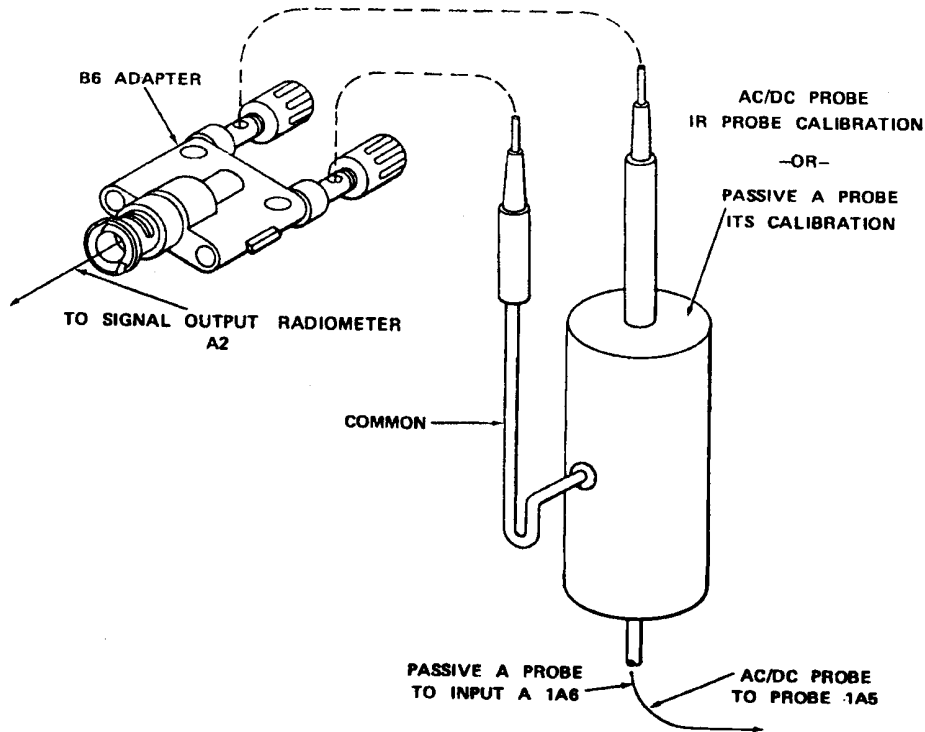

Figure 5. AC/DC and passive probe A.
e. Connect radiometer A2 OUT to waveform converter using passive probe A and extender cable B11, figure 5.
- d.** Connect AC/DC probe to radiometer A2 OUT, using extender cable B13, figure 5.